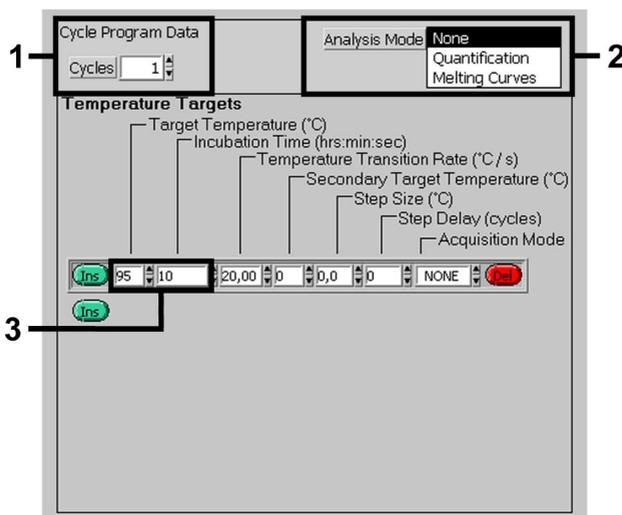

Fig. 3: Initial Activation of the Hot Start Enzyme.
For the detection of parvovirus B19 DNA, create a temperature profile on your *LightCycler* Instrument according to the following three steps (see Fig. 3 - 5).
- A. Initial Activation of the Hot Start Enzyme Fig. 3